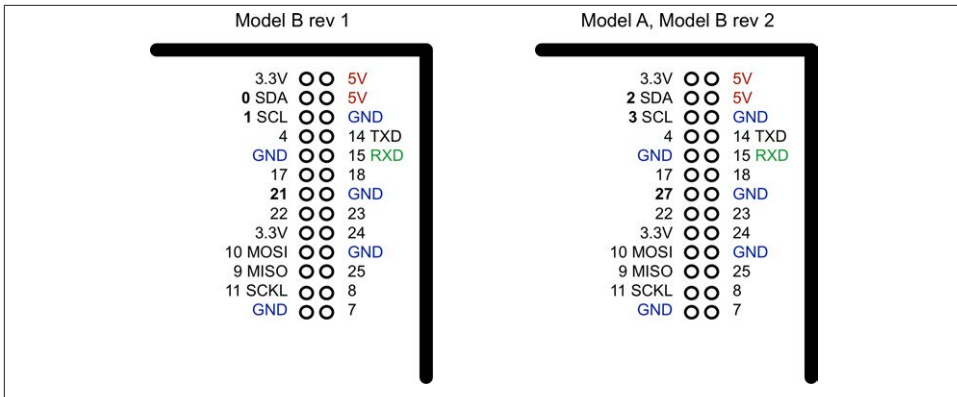

Figure 8-1. The GPIO pinout
**Figure 8-1** shows the GPIO pinout for both revisions 1 and 2 of the Raspberry Pi Model B. The quick way to tell the boards apart is that if you have an older revision 1 board, it has a black audio socket. The revision 2 boards have a blue audio socket.
There were three changes to the GPIO connector between revision 1 and revision 2. These are highlighted in bold in Figure 8-1. First, the I2C port was swapped. The two pins SDA and SCL are still SDA and SCL but use a different internal I2C interface. This means that if you're using the pins as GPIO rather than I2C, then you will refer to them as 2 and 3 on a revision 2 board. Also, GPIO 21 was replaced by GPIO 27 on revision 2.